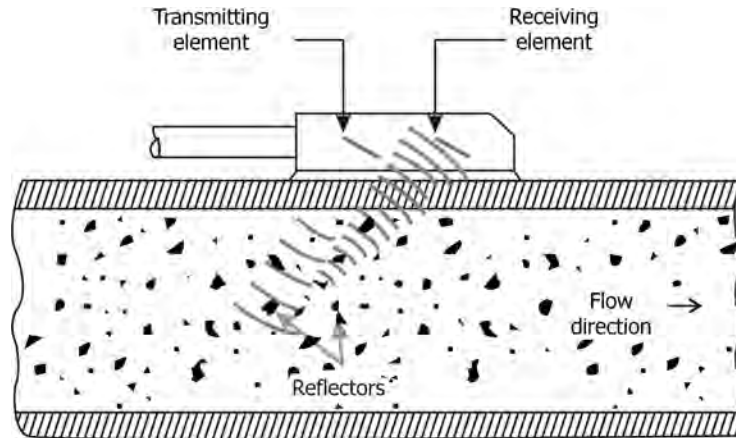

FIGURE 4.25 Doppler flow meter.
- Figure 4.25 illustrates a Doppler flow meter.